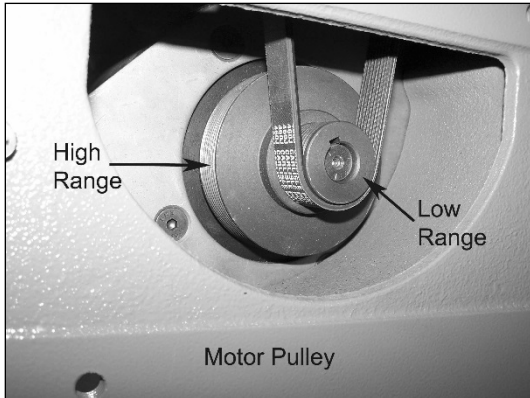
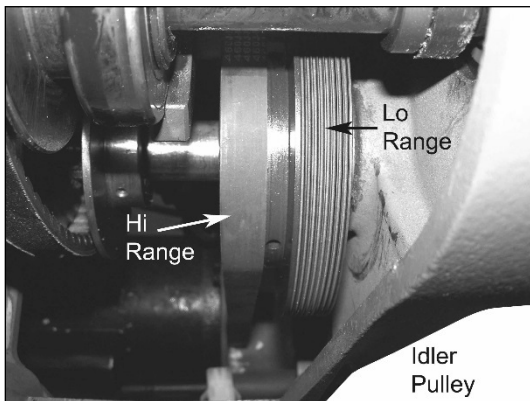

Figure 23
Figure 24
3. Figure 23 shows the motor pulley and Figure 24 shows the idler pulley once the headstock door is opened. At this point simply move the poly-v belt to the desired step on each pulley.